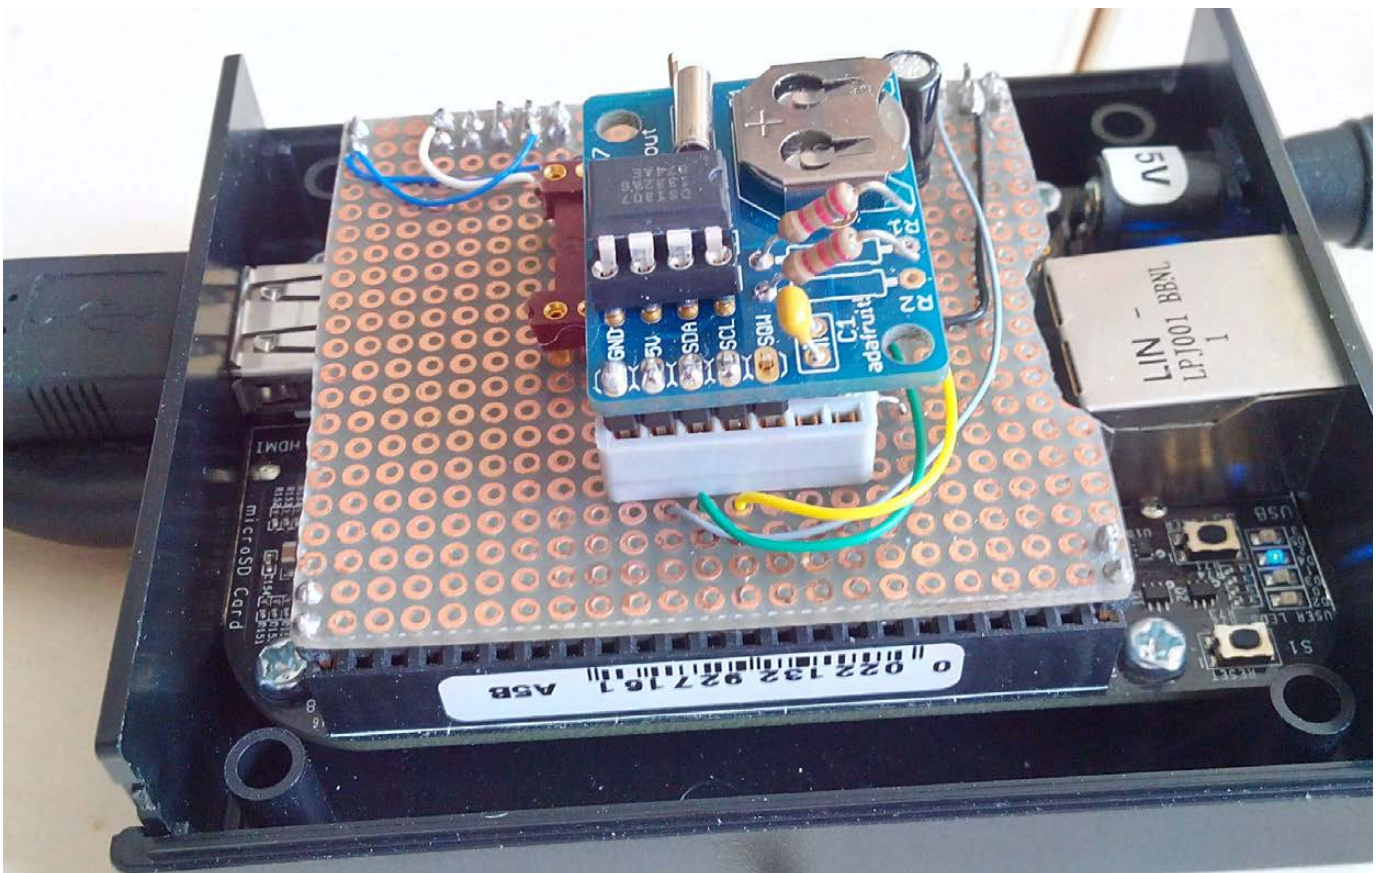

Figure 8. The Adafruit RTC ds1307 Module Wired on the BBB
*the two 2.2k resistors* (Figure 8). The internal resistors of the BBB i2c bus will then be used.